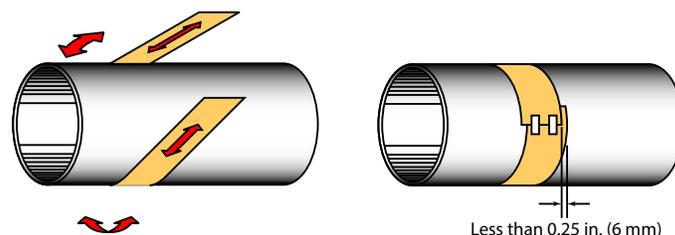

Figure 17: Paper template alignment
1. Wrap the paper around the pipe as shown in Figure 17. Align the paper ends to within 0.25 in. (6 mm).